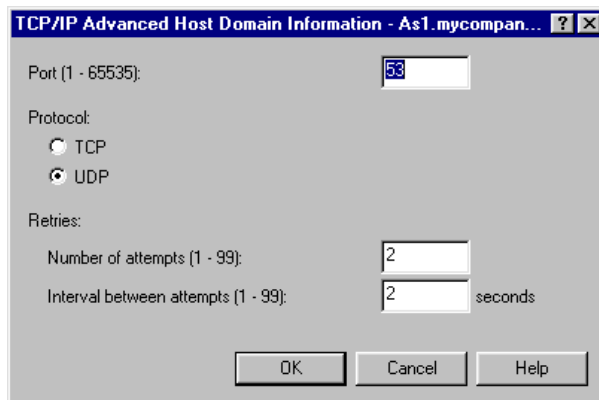

Figure 462. Advanced Host Domain Information settings
3. Click **Advanced** to set additional DNS values. The Advanced Host Domain Information window (Figure 462) appears. The default values shown work in most environments. If you have intermittent trouble resolving names to IP addresses, you may want to increase the number of attempts and the interval between attempts. If these values are set too high, you may experience a long wait time before an “unknown host” message is displayed.